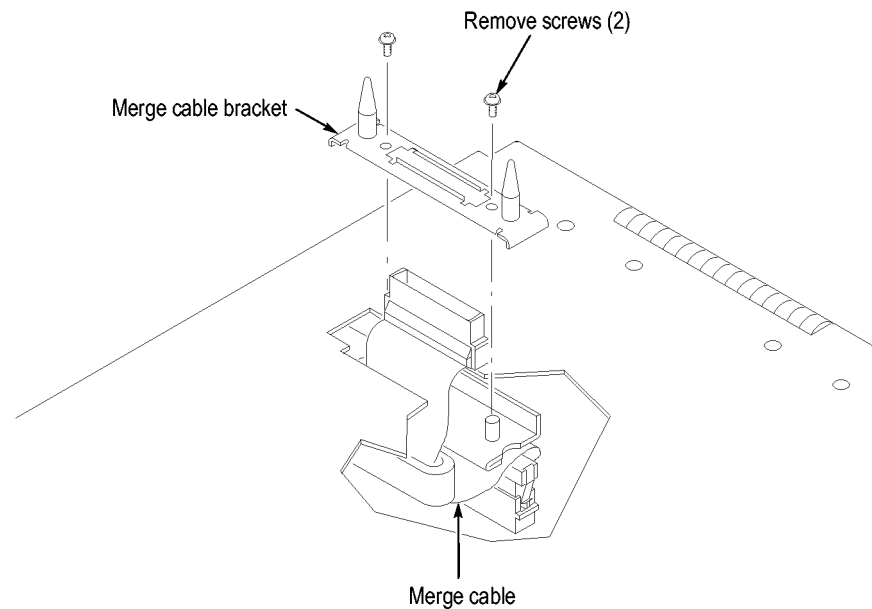

Figure 53: Feeding the merge cable through the cover
9. Replace the cover while feeding the merge cable through the hole in the cover. (See Figure 53.)